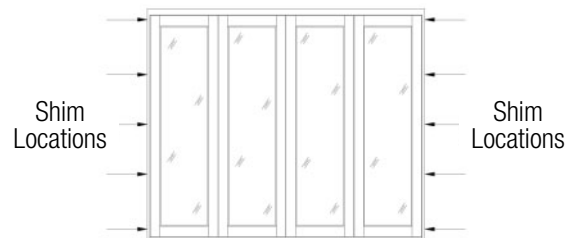

FIG. 14
- Shim jambs at each corner, at each well pivot and in line with each panel hinge elevation. Place enough shims so that there is no more than 24" between any two shims. See Fig. 14 for minimum shim placement.